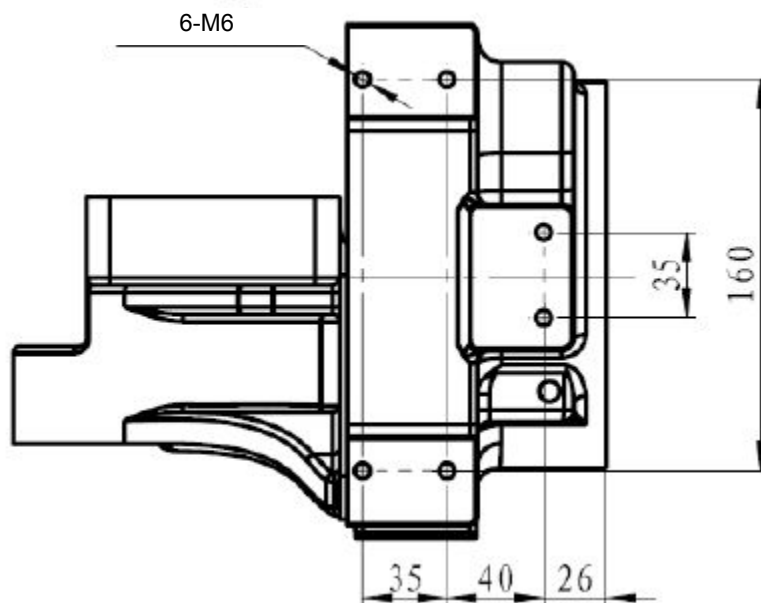
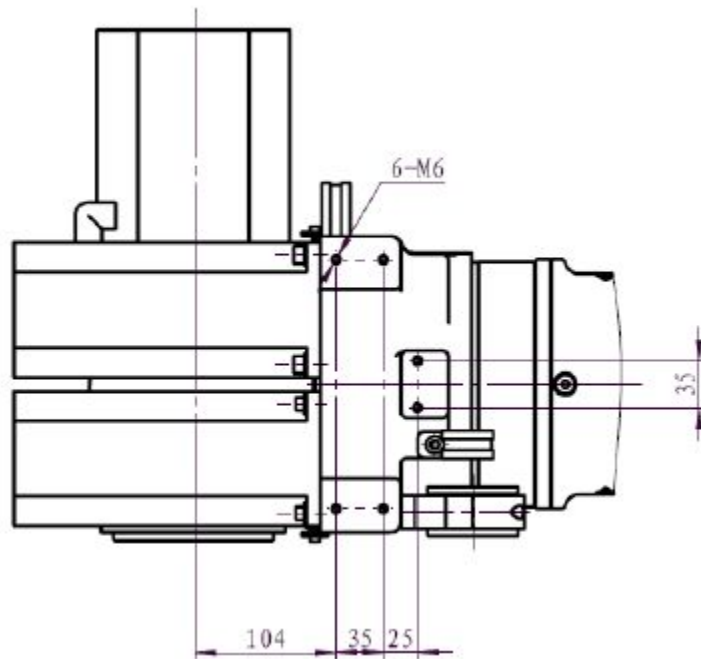

Figure 3-9 Forearm Auxiliary Mounting Hole Dimensions of SR20/ SR18L8
Figure 3-10 Forearm Auxiliary Mounting Hole Dimensions of SR25
3. The forearm auxiliary mounting hole dimensions of SR20/SR18L8 are shown in fig.3-9; The forearm auxiliary mounting hole dimensions of SR25 is shown in fig.3-10.